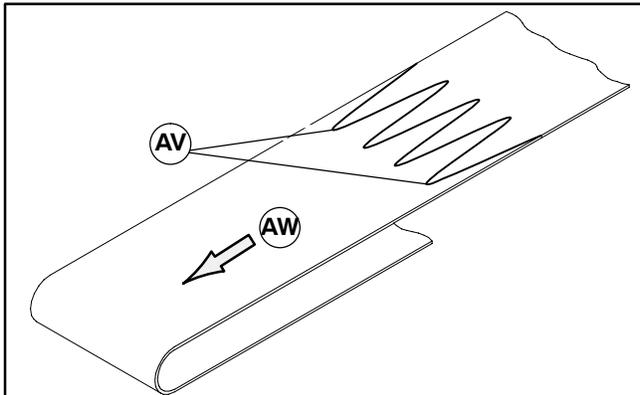
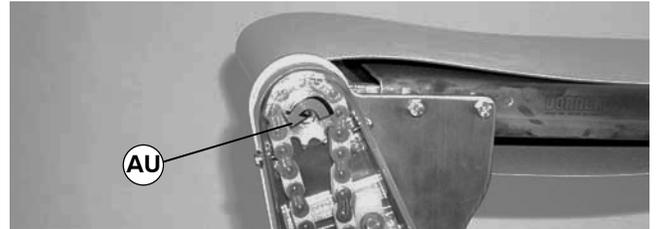

Figure 25
Figure 26
1. Orient conveyor belt so the splice leading fingers (AV of Figure 25) point in the direction of belt travel (AW) as identified by the label (AU of Figure 26).
**IMPORTANT:** On a flat belt conveyor, the wiper is installed on discharge end. Belt travel direction is identified by an arrow decal on the drive cover (AU of Figure 26).
1. Orient conveyor belt so that the splice leading fingers (AV of Figure 25) point in the direction of belt travel (AW) as identified by the label (AU of Figure 26).